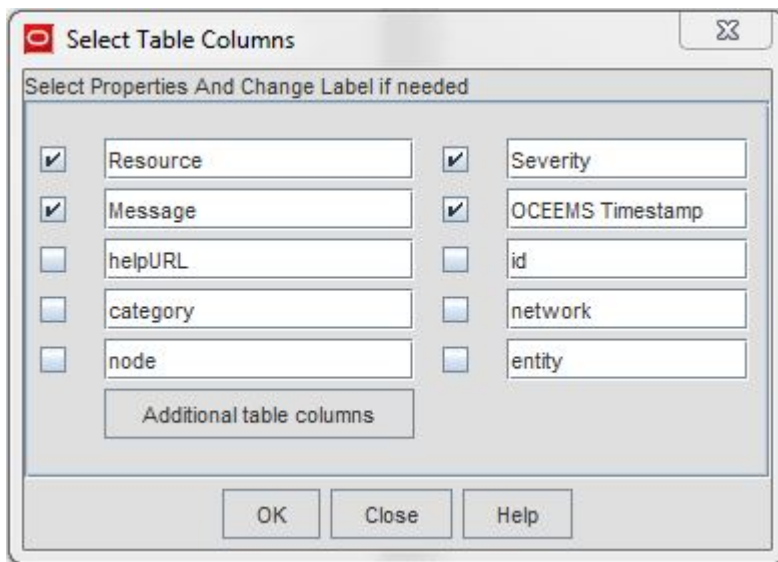
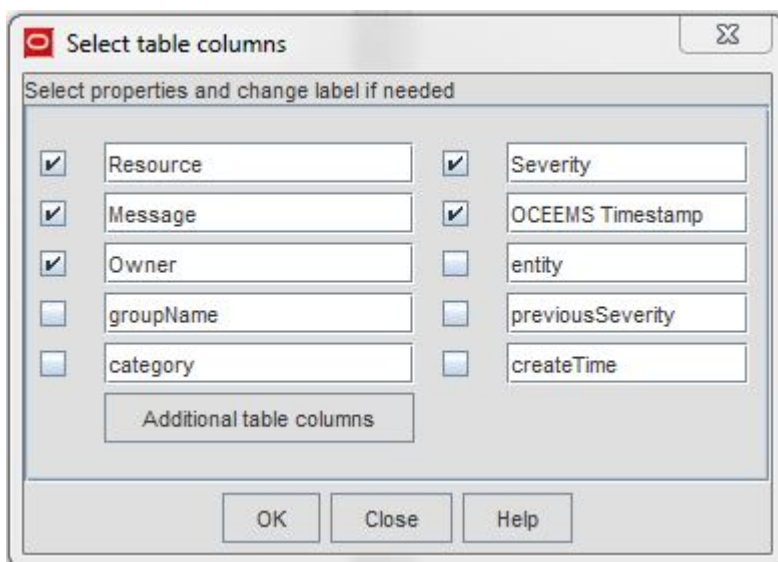

Figure 133: Selecting Table Columns for Network Events
Figure 134: Selecting Table Columns for Alarms
The **Select Table Columns** dialog box is displayed, as shown in Figure 133: Selecting Table Columns for Network Events and Figure 134: Selecting Table Columns for Alarms. The selected fields are the columns that can be seen in the resulting custom view.
3. To view additional table columns, click the **Additional table columns** button shown in Figure 133: Selecting Table Columns for Network Events and Figure 134: Selecting Table Columns for Alarms.